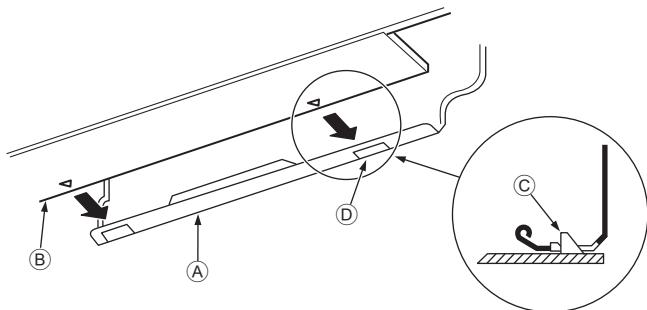

Fig. 3-10
3. While inserting the refrigerant piping and drain hose into the wall penetration hole (penetration sleeve), hang the top of the indoor unit to the mount board ①.
5. Fasten by pushing the bottom part of the indoor unit onto the mount board ①. (Fig. 3-10)
* Check that the knobs on the bottom of the indoor unit are securely hooked into the mount board ①.
- ④ Mount board ①
⑤ Indoor unit
⑥ Hook
⑦ square hole